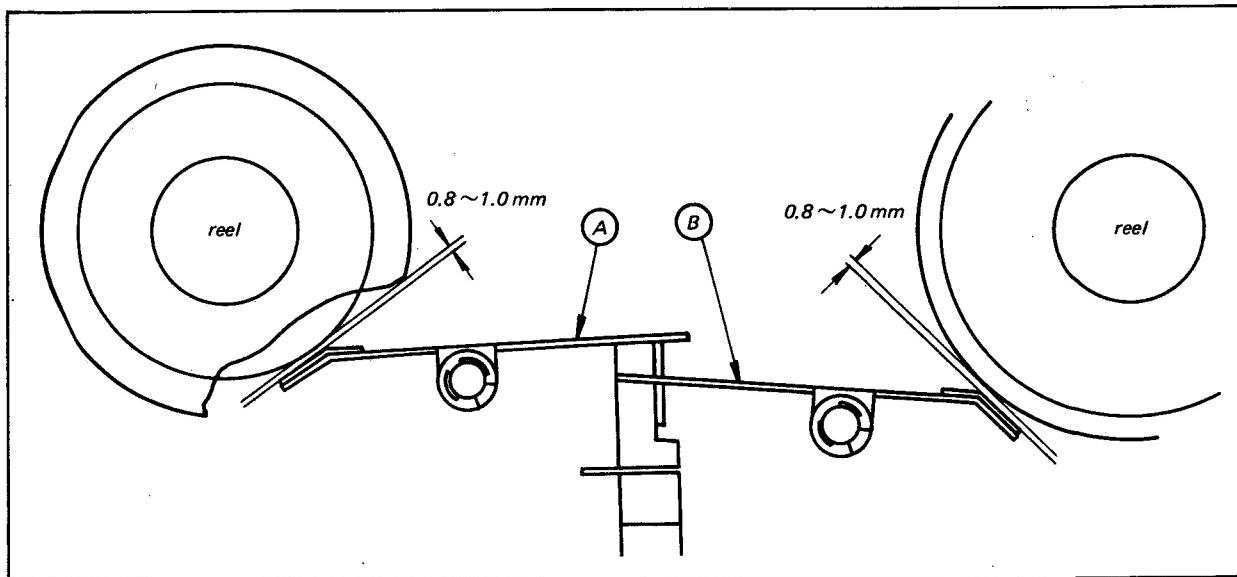

Fig. 7-16 Brake adjustment
3. Check for  $0.9 \pm 0.1$  mm clearance between the reel table and brake shoe. Bend **(A)** or **(B)** portion for correct clearance. See Fig. 7-16.